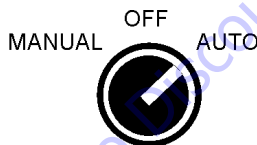

**Figure 12. Control Box Power ON Indicator**
3. Verify that the **ON** indicator (Figure 12) on the control box is **LIT**. This means that power is being supplied to the control box.